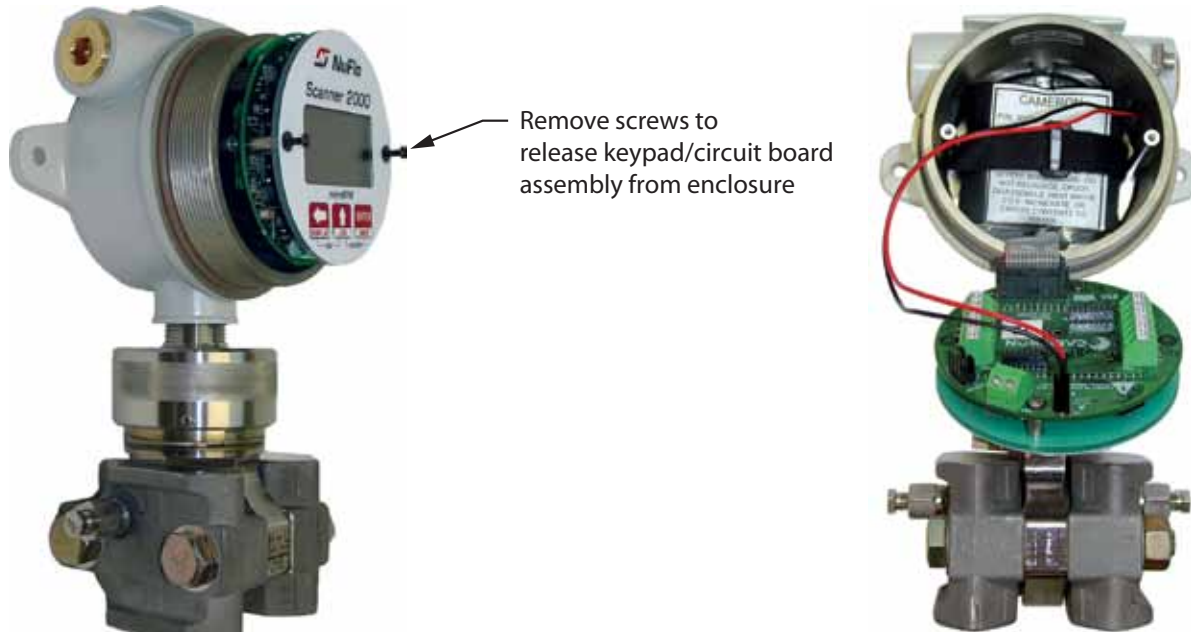

Figure 5.1—Removal of the battery pack from the enclosure
2. Using a small standard blade screwdriver, remove the two #4-40 × 7/8" screws located to the right and left side of the display (Figure 5.1, page 78).
4. Loosen the velcro strap, disconnect the battery from the J1 connector on the circuit assembly, and remove the spent battery pack from the enclosure (Figure 5.1).
2. Using a small standard blade screwdriver, remove the two #4-40 × 7/8" screws located to the right and leftside of the display (Figure 5.1, page 78).